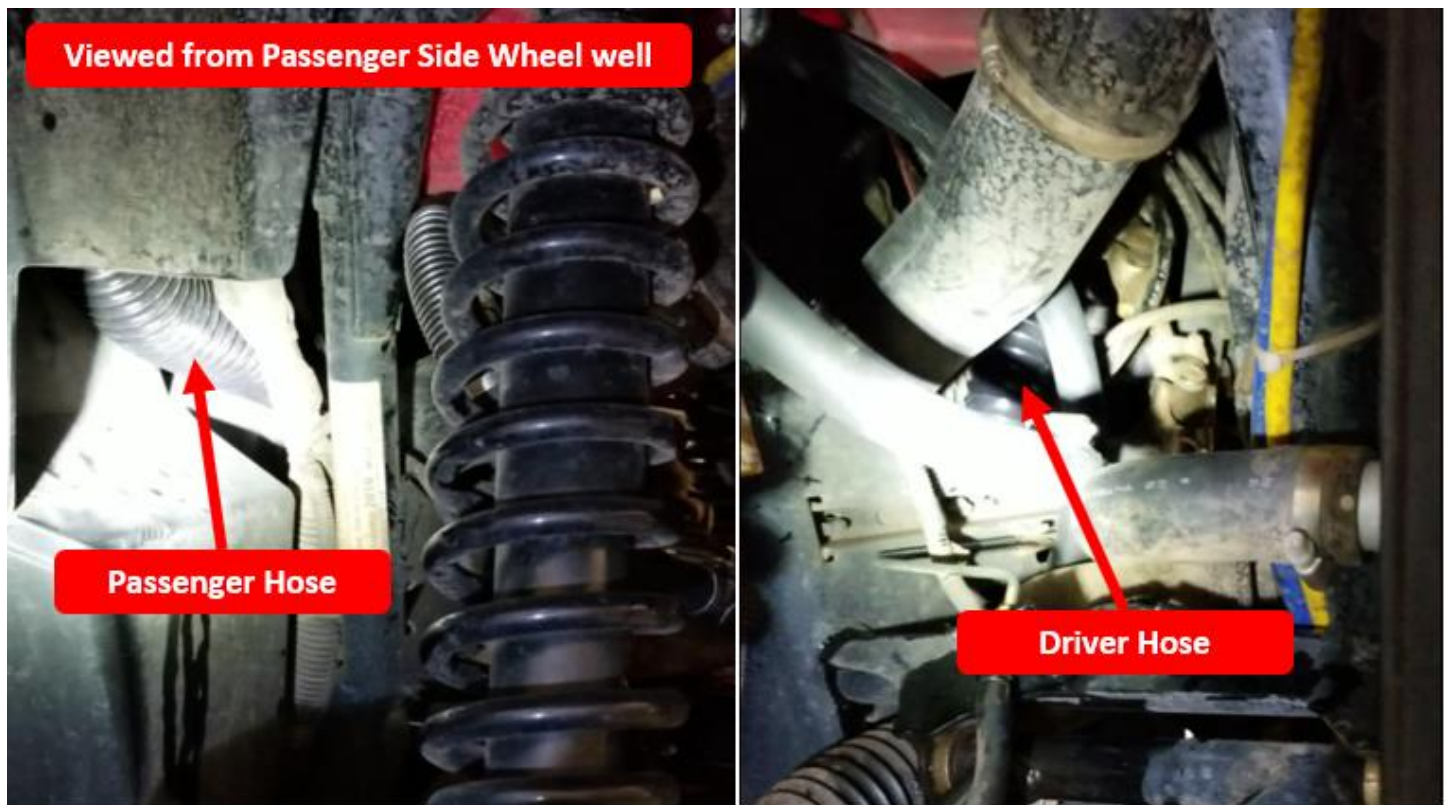

Figure 3
9. Once the hose reaches the access panel, reach one of the hoses from the passenger side wheel well and pull it to the passenger side cup holder. Route the hose as close to the firewall as possible. Do the same thing for the driver side hose. Pull the flex up through the cup holder and leave a few inches of slack. See Figure 3.